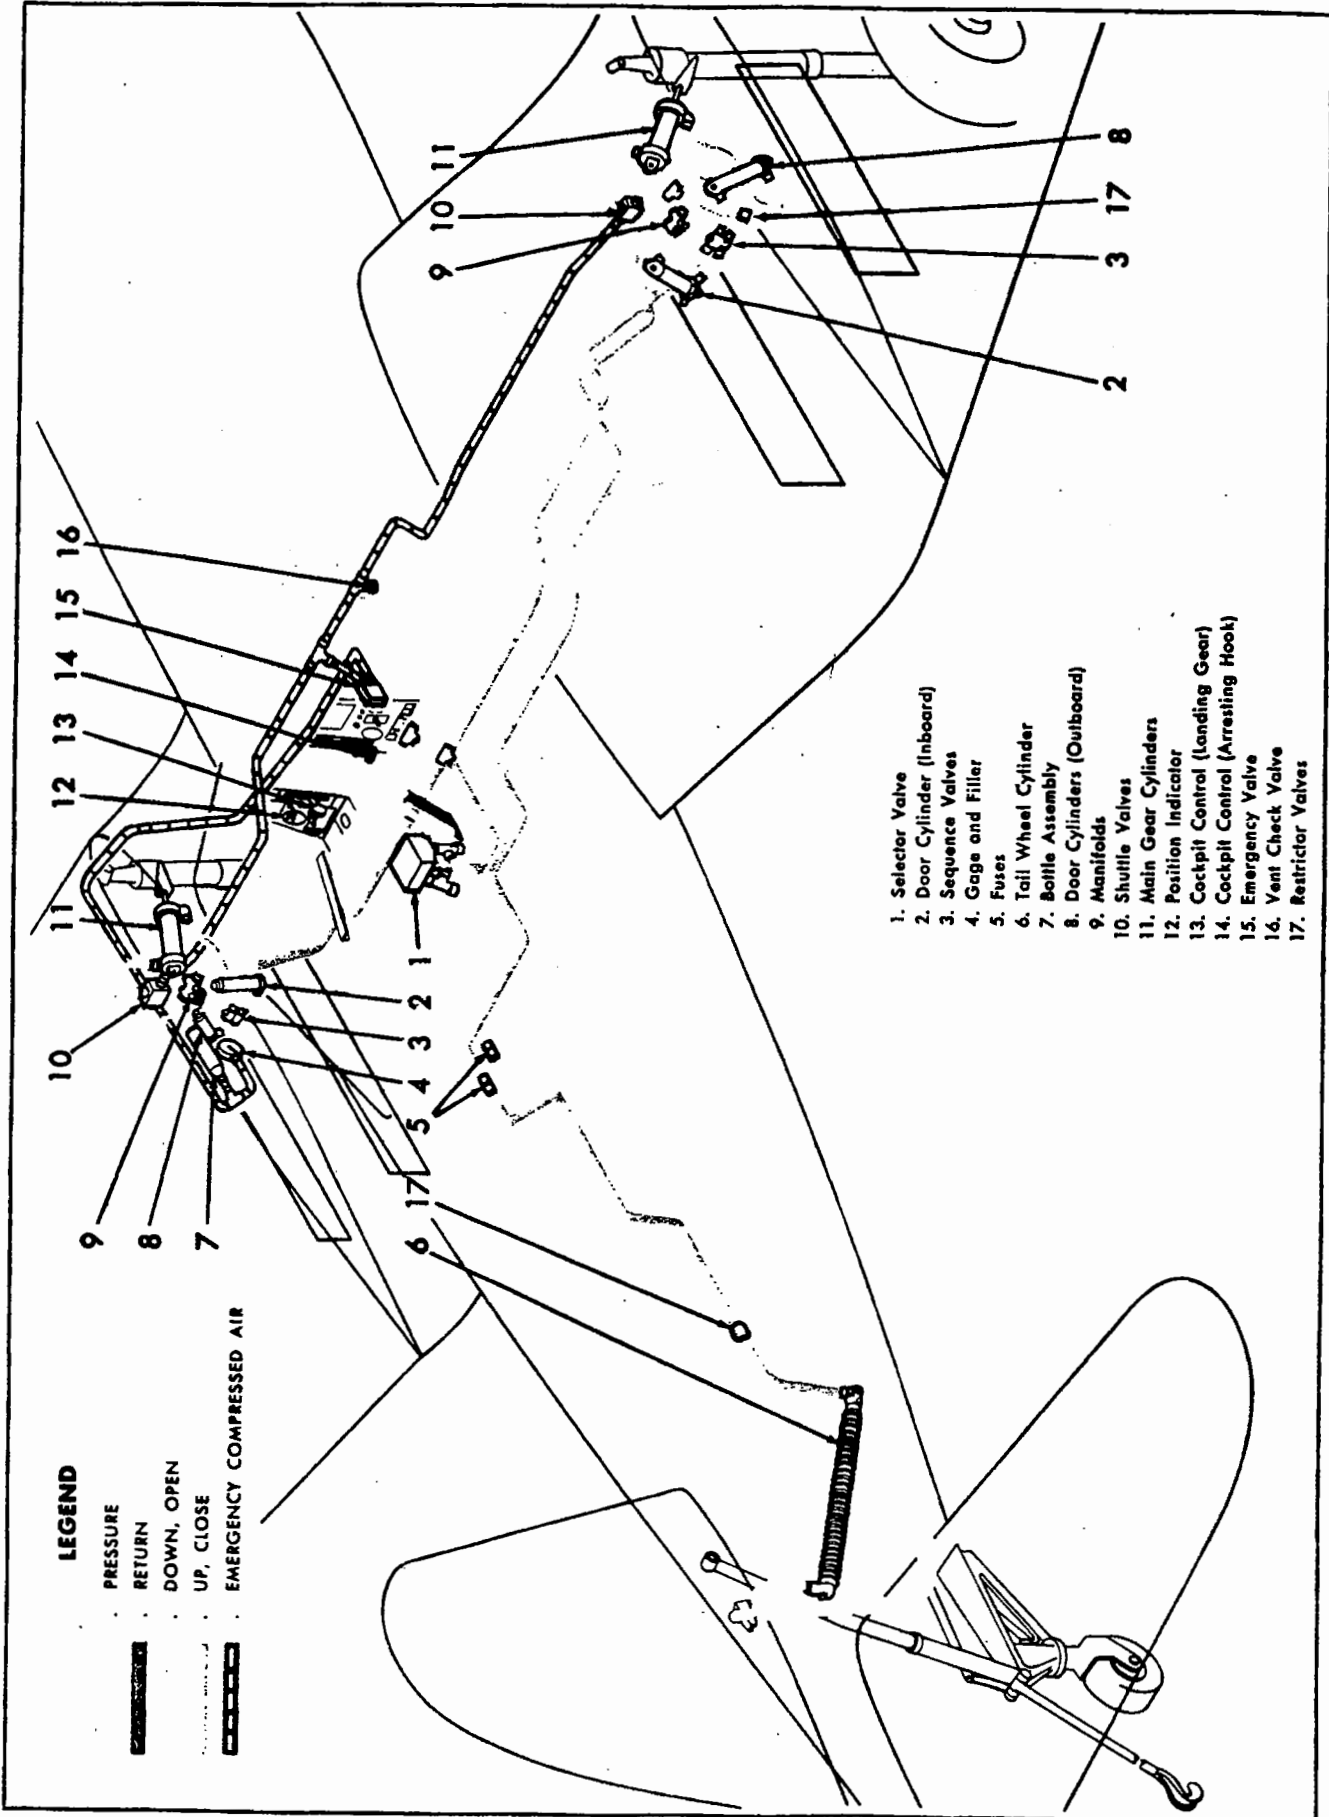
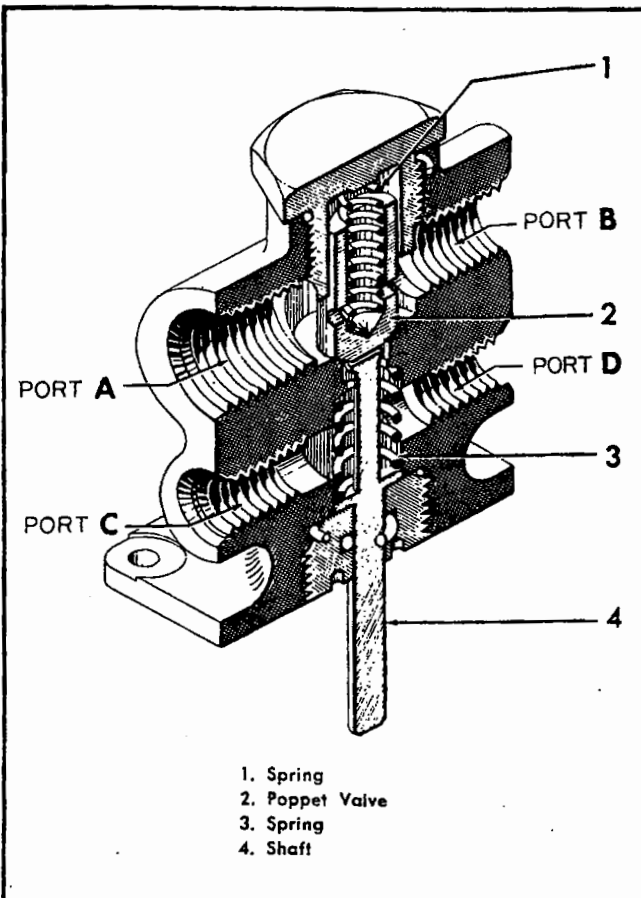

Figure 4-102. Hydraulic System—Landing Gear.
Figure 4-103. Landing Gear Sequence Valve.
4-974. DESCRIPTION. (See figures 4-102 and 4-95.) The main landing gear, landing gear doors and tail gear are hydraulically actuated. The arresting hook derives its motion mechanically from the action of the tail gear when the latter is retracted; refer to paragraph 4-377. The main landing gear, landing gear doors and tail gear operate simultaneously in extension but in retraction, due to a sequence valve in the retract line, the main landing gear doors and tail gear lag until the main wheels are completely retracted. Information on mechanical operation of the main gear may be found in paragraph 4-304 and of the tail wheel in paragraph 4-340. Provision is made to lower the gear in an emergency by the operation of a compressed air system; refer to paragraph 4-1027. The landing gear control lever is located on the left hand inclined portion of the cockpit control panel and connects to the selector valve by means of an aluminum alloy rod. This lever controls the hydraulic flow to the main gear, tail gear, and landing gear doors. When the hydraulic system is operative, the landing gear cylinders are under pressure and when the system is inoperative the gear is mechanically locked in an up or down position.
4-975. FUNCTION — RETRACTING. (See figure 4-102.) When the landing gear control handle is raised to
4-976. FUNCTION — EXTENDING. (See figure 4-102.) When the landing gear control handle is lowered to the "DOWN" position, the selector valve "extend" poppets open. This allows hydraulic fluid to flow through the shuttle valve to the landing gear door actuating cylinders and main gear cylinders as well as through a return-flow type fuse to the tail gear cylinder "extend" port. The main gear and tail gear are thus extended with landing gear doors opened.
4-979. DESCRIPTION. (See figure 4-102.) This is an AN 6211-2 four-port, four-way, selector valve manufactured by Adel Precision Products Corporation of Burbank, California. Their part number is B-11809. The purpose of valve is to regulate the direction of hydraulic flow to either extend or retract the landing gear. It is
4-984. DESCRIPTION. (See figures 4-102 and 4-103.) The sequence valves are four port valves which are manufactured by the Bendix Aviation Corporation of North Hollywood, California. Their drawing numbers are 40204-0-1 for the left hand valve and 4020004-1-1 for right hand valve. The valves are located in the wheel wells just aft of the main beam and are mounted on the lower main beam flange. Their purpose is to delay the closing of the landing gear doors until the main gear is retracted. In the retracted position, the shock struts contact the sequence valve pins and open the valves, allowing system pressure to flow to the landing gear door cylinders and the tail wheel cylinder. Thus, the landing gear doors close and the tail wheel retracts after the main wheels have retracted. Each valve consists of an aluminum housing with four ports, a protruding spring-loaded shaft (4) and a spring-loaded poppet valve (2). Flow occurs normally between the ports A and B preventing flow to ports C and D until pin is depressed and poppet opens; callouts may be found on figure 4-103.
a. Plug ports A, B, and D (see figure 4-103). Valve must hold 2250 psi applied at port C for two minutes without external leakage.
4-989. **DESCRIPTION.** (See figure 4-102.) The main landing gear cylinders are designed by Chance Vought Aircraft. Their drawing number is VS-46648. The unit consists of a one-cap cylinder which is attached to a fitting on the main wing beam at the cylinder end, and to a yoke at the piston rod end. The yoke attaches to a ring on the landing gear shock strut through a pair of lock links. The cylinder has a port at each end, one of which attaches to the "extend" hydraulic line and the other to the "retract" hydraulic line. When the landing gear selector valve is in the "retract" position, fluid enters the cylinder on the piston rod end and fluid on the extend side of the piston returns to the system; this retracts the gear. When the selector valve is in the "extend" position, fluid is reversed, and gear extends. For a more detailed description, refer to paragraph 4-917.
4-998. **DESCRIPTION.** (See figure 4-102.) The outboard landing gear door cylinders are manufactured by Chance Vought Aircraft. Their drawing number is VS-58307. Each is attached to a bracket on the aft face of the main beam in the wheel well on both left and right hand sides of the airplane. The rod end attaches to the outboard landing gear door. Their purpose is to open and close the outboard doors. The general design features of the cylinder may be found in paragraph 4-917. These units are accessible when the landing gear doors are open.
4-1007. **DESCRIPTION.** (See figure 4-102.) This cylinder (VS-58256) is identical in every respect, except for length of stroke, to the outboard landing gear door actuating cylinder. The inboard cylinder is installed with the cylinder end attached to a bracket on the main beam and the piston rod end secured to a bracket on the inboard landing gear door. Access to each cylinder is gained when the inboard landing gear doors are open. Maintenance procedures outlined in paragraph 4-999 through 4-1005 apply to the cylinder. The list of packings, gaskets and wipers is identical to the list for the outboard cylinder.
4-1009. **DESCRIPTION.** (See figure 4-102.) This fuse may be purchased from United Aircraft Products, Dayton, Ohio (their part number UC4480-D-6-80) or from Simmonds Aerocessories, Inc. of New York. Their part number is D45-6-202-80. It consists of a two port casing, which houses a passage for hydraulic fluid, and a poppet valve. This poppet runs in an internal cylinder which, due to a metering hole, slowly fills with fluid while the main volume passes through the main flow passage. When sufficient fluid enters the cylinder, the poppet seats and stops all flow through the fuse. The fuse is accessible through the lower cockpit access door and is located on the side of the fuselage at station 165. It is installed in the main retract line to the tail gear. The purpose of the fuse is to shut off the flow to the system after a specified volume of fluid has passed through the fuse. It protects the system in the case of a broken tail wheel line.